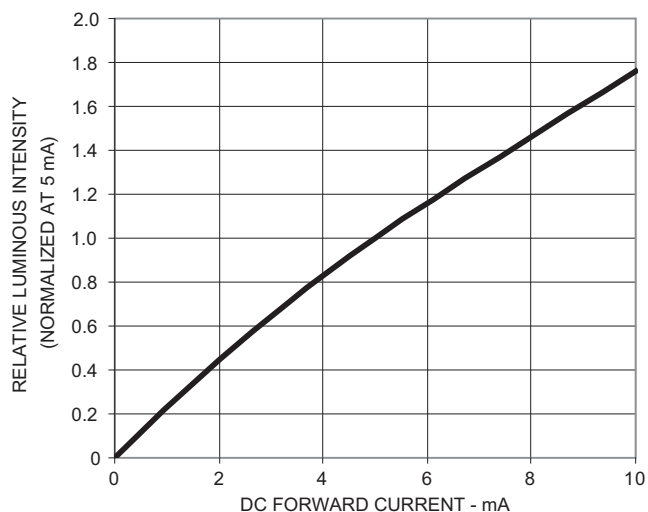

Figure 4. Luminous intensity vs. forward current
1. Derate linearly as shown in Figure 4.